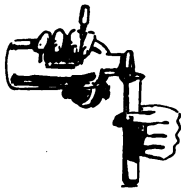

Fig. 11.
1. (Rule 1.) Take the other half of the sol. (Exp. 9) in a t.t., hold the latter with a tube holder, and slowly pour into the tube a little sulfuric acid,  $\text{H}_2\text{SO}_4$  (Fig. 11, Rules 9, 10). Watch carefully the result. If there is any action, describe it, see where it begins and how it continues, and give accurately any color changes. Note whether the temperature of the t.t. continues the same. See whether any gas escapes, and take the odor.